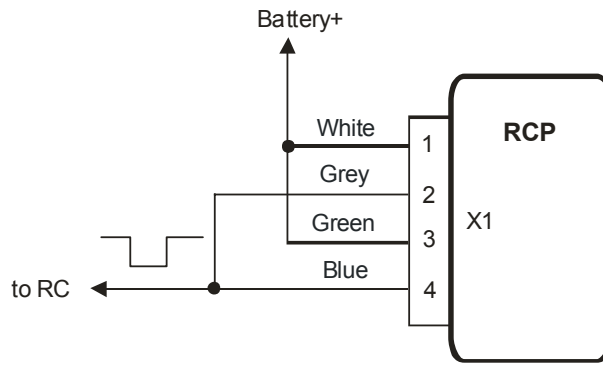

Figure 6
- The remote control with the only one output channel may be connected by the scheme at fig. 6 to add a possibility not only to turn the heater on, but also turn the heater off too. Every one impulse on the output of the remote control receiver unit will move the heater to the opposite state: switch on the idle heater, switch off the operated heater. To realize this mode it is necessary to connect in pairs the inputs Heater_on+ with Heater_off+, and the inputs Heater_on- with Heater_off-.